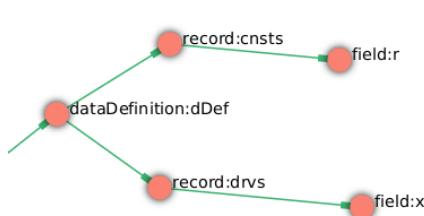

Figure 28. Defining constant `r` and driver `x` within the data definition sub-tree.
4. Create a `field` node as child of `record:drv's`, name it 'x' and again set the type to `Double` (Figure 28).